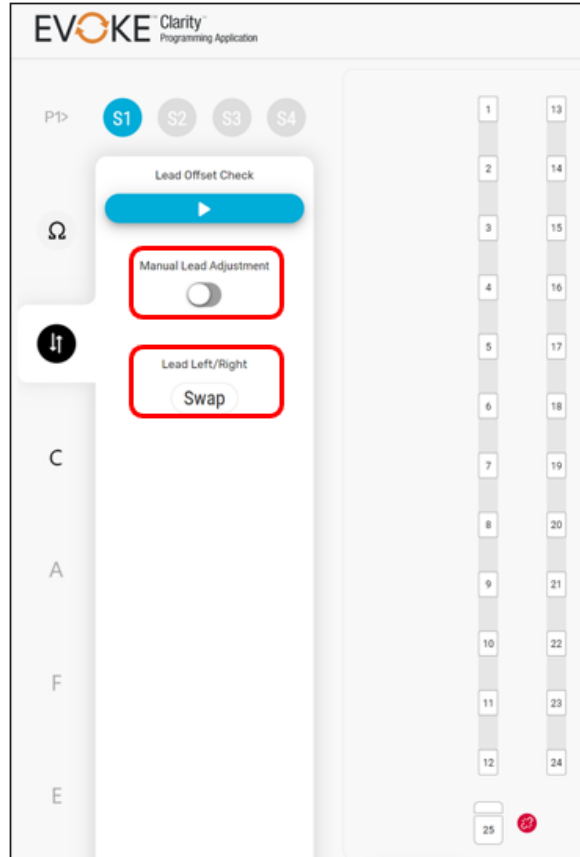

Figure 6.21: Set up Lead Orientation.
- Touch the **Lead Orientation** tab (see Figure 6.21).